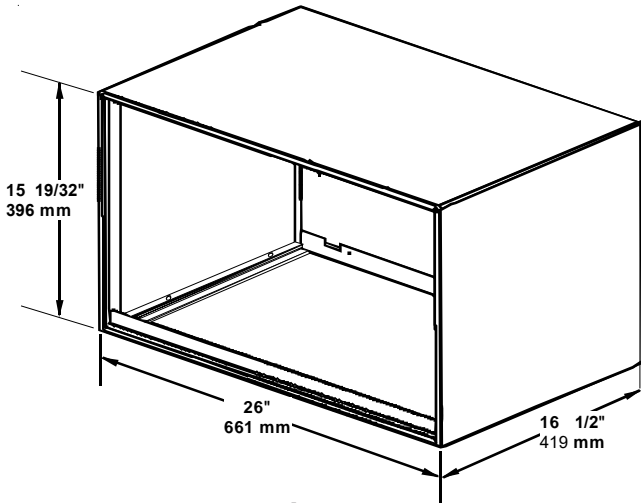
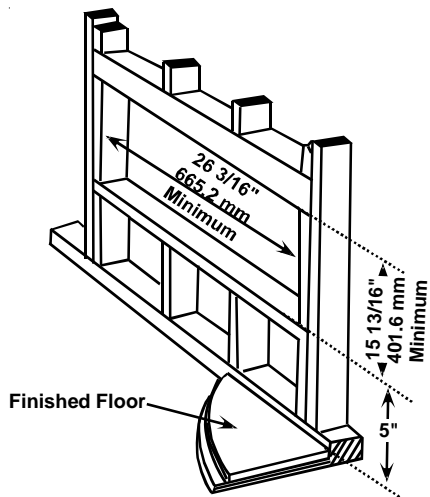

Figure 1
Figure 3
- The wall opening must be the correct size. See Figure 1 for wall sleeve dimensions and Figure 3 for minimum wall opening size.